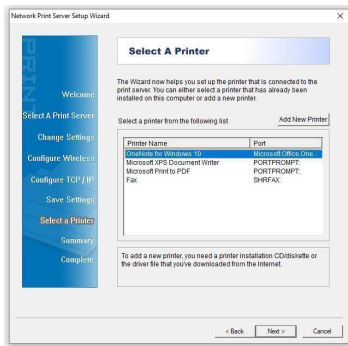

Figure 9
11. At the **Select a Printer** screen, select the desired **Printer** to use with the **Print Server**. If the desired **Printer** does not appear in the list, select **Add New Printer** and complete the steps required to add a new **Printer**. Select **Next**. (Figure 9)